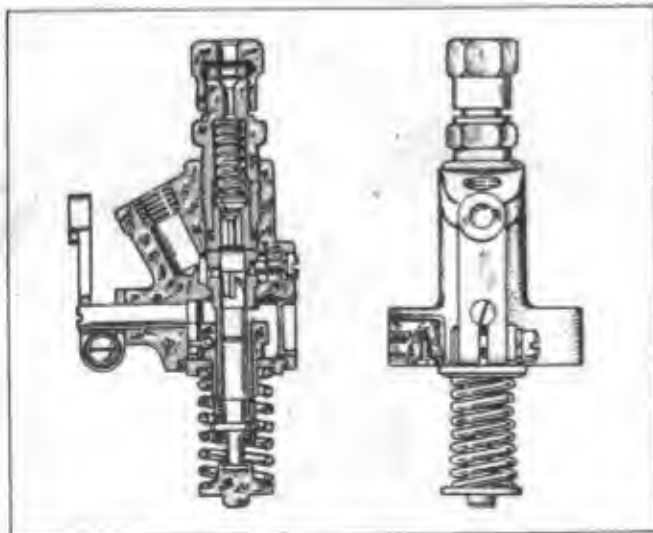

Figure 28. PLB. Injection Pump
1. Model PLB—Figure 28 illustrates the injection pump cross section. When the piston is nearing the end of the compression stroke, the plunger has moved upward (lower line, Figure 28) closing the ports trapping fuel and forcing the delivery valve off its seat. The fuel flow is up past the delivery valve and delivery valve spring to the high pressure line leading to the injection nozzle. Injection continues until the helix passes and spills, which drops the pressure rapidly. Delivery valve action is to aid in dropping line pressure and keep fuel from draining out of the line, allowing a void between the injection pump and nozzle which would cause the nozzle not to open on the next firing cycle.